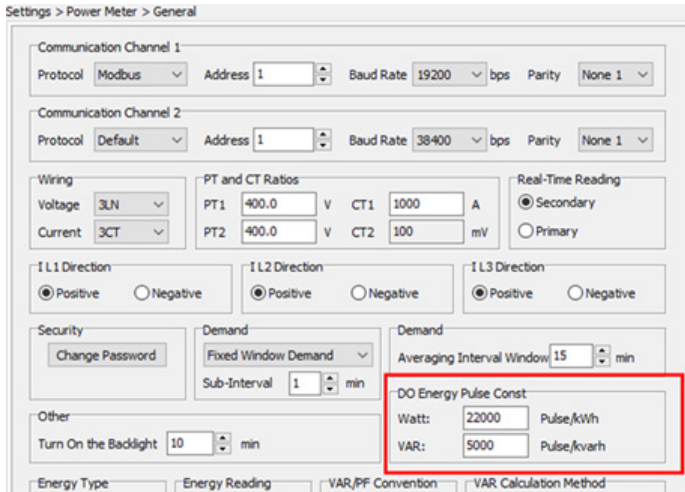

Figure 5-35 DO Energy Pulse Constant Configuration from Acuview software
- Once the pulse constant is determined, it will need to be configured in the general settings. In Figure 5-35, the pulse constant that is entered into the meter is 100.